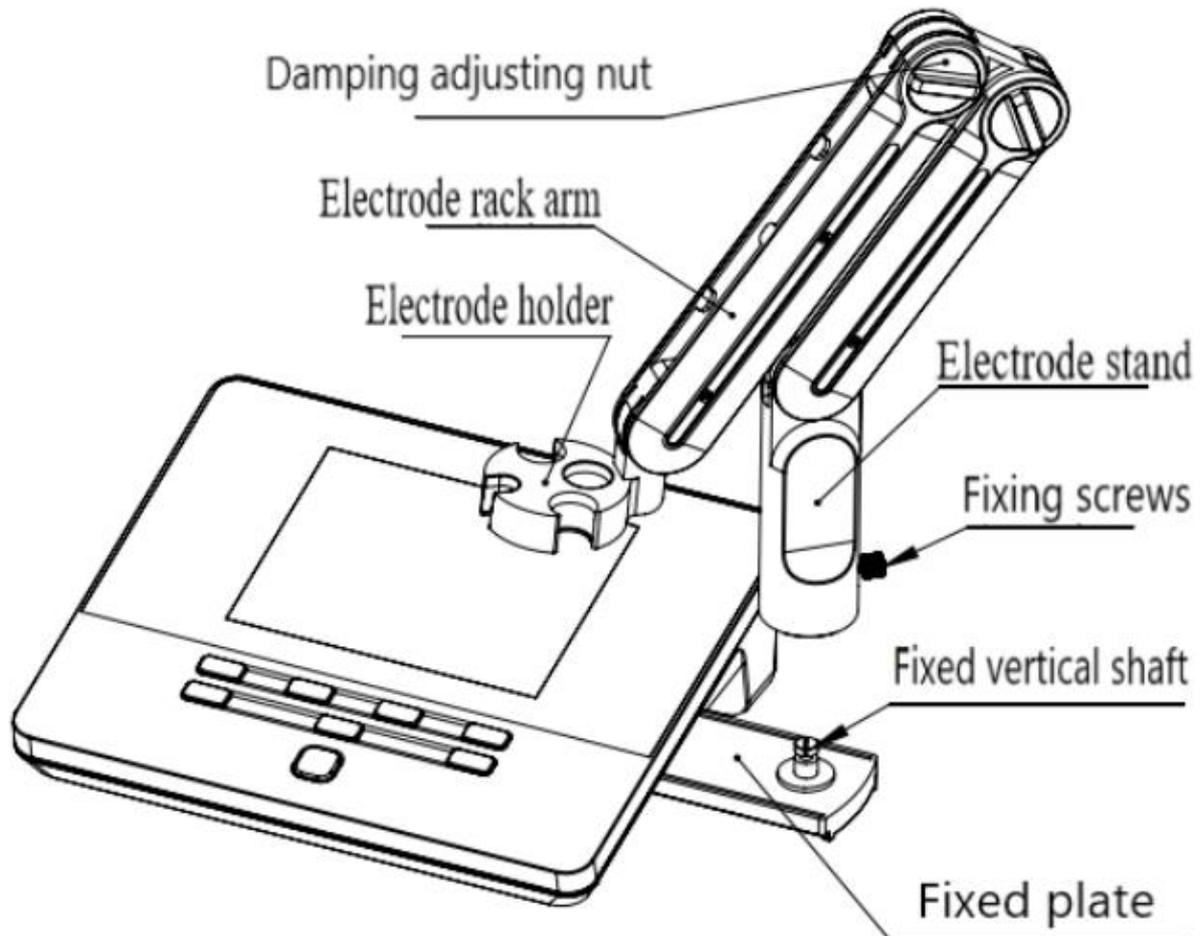

Figure-4 (Electrode Stand Installation)
- 2) Insert the center hole of the multifunctional electrode holder support (as in the above **Figure-4**) into the vertical shaft of the multifunctional electrode holder drawer.